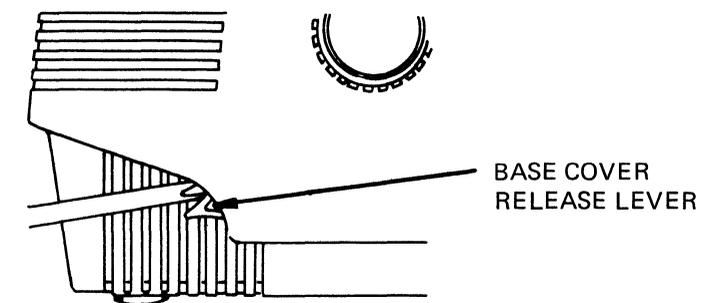

Figure 4-2 Base Cover Lever (Left Side)
- Push both the left and right levers on the base cover down using a screwdriver or similar tool (see Figure 4-2).